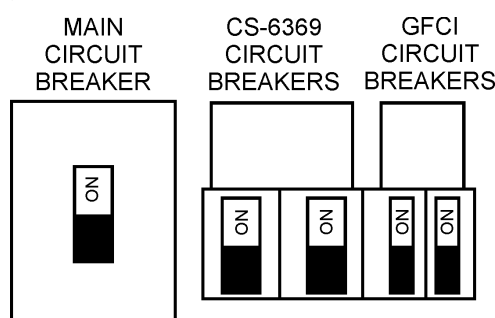

Figure 34. Main, Aux. and GFCI Circuit Breakers (ON)
- Place the **main, G.F.C.I., and aux.** circuit breakers (Figure 34) in the **ON** position.